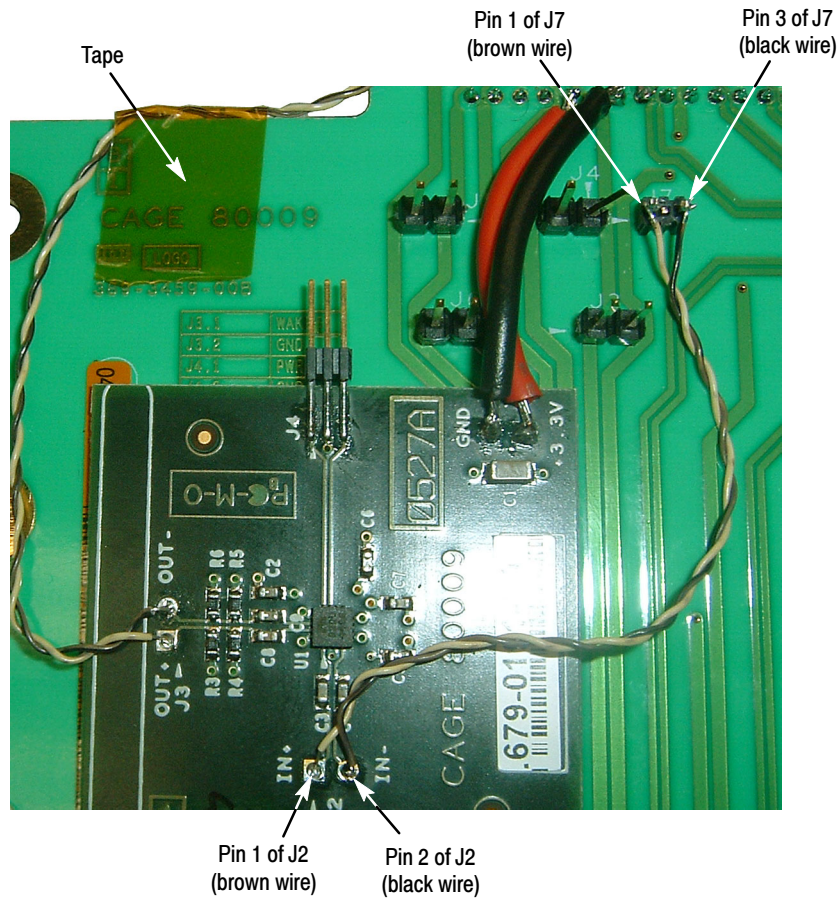

Figure 10: Slot Adapter board modification completed
11. Solder the second brown twisted-pair wire from pin 1 of the J7 connector on the Slot Adapter board to pin 1 of the J2 connector to the Interposer Fix board. See Figure 10.